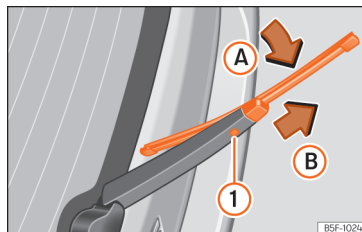

Fig. 42 Changing the rear wiper blade
- Turn the blade slightly »» Fig. 42 (arrow A).
- Hold down the release button ① while gently pulling the blade in the direction of arrow B.
- Insert a new blade of the **same length and type** in the rear wiper arm in the opposite direction to the arrow B and hook into place button ①.